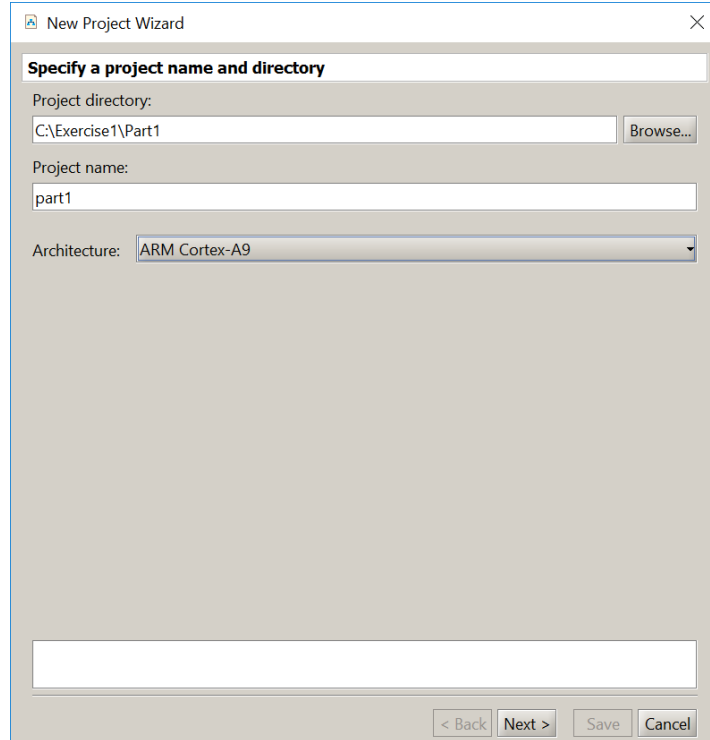
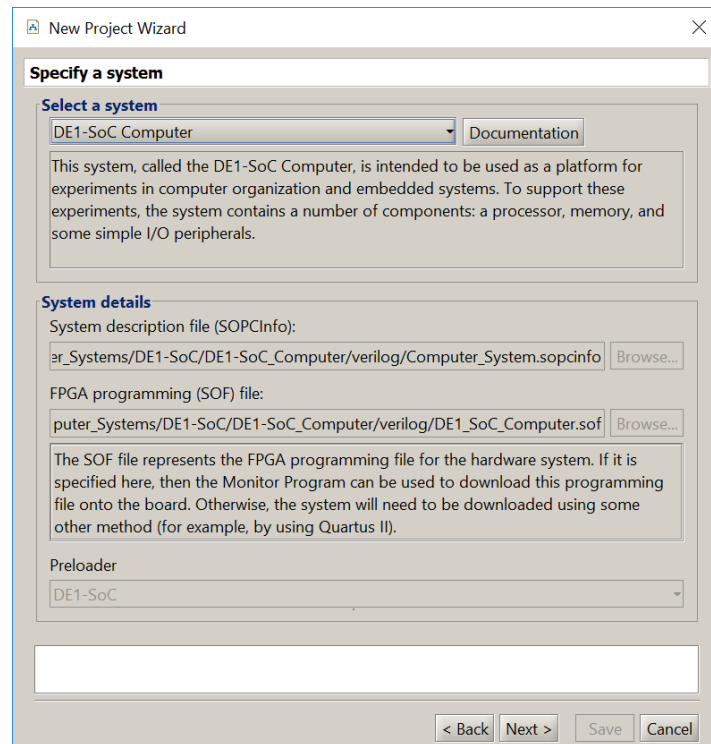

Figure 2: Specify the folder and the name of the project.
Figure 3: Specification of the system.
To develop ARM software code using the Monitor Program it is necessary to create a new project. Select **File > New Project** to reach the window in Figure 2. Give the project a name and indicate the folder for the project; we have chosen the project name *lab1_part1* in the folder *Exercise1\Part1*, as indicated in the figure. Use the drop-down menu shown in Figure 2 to set the target architecture to the ARM Cortex A9 processor. Click **Next**, to get the window in Figure 3.
3. Now, you can select your own custom computer system (if you have one) or a pre-designed (by Intel) system. In Figure 3 we selected the *DE1-SoC Computer*. Once you have selected your computer system the display in the window will now show where files that implement the chosen system are located. If you select a computer system that you designed yourself, then you have to provide the locations of the corresponding files. Click **Next**.